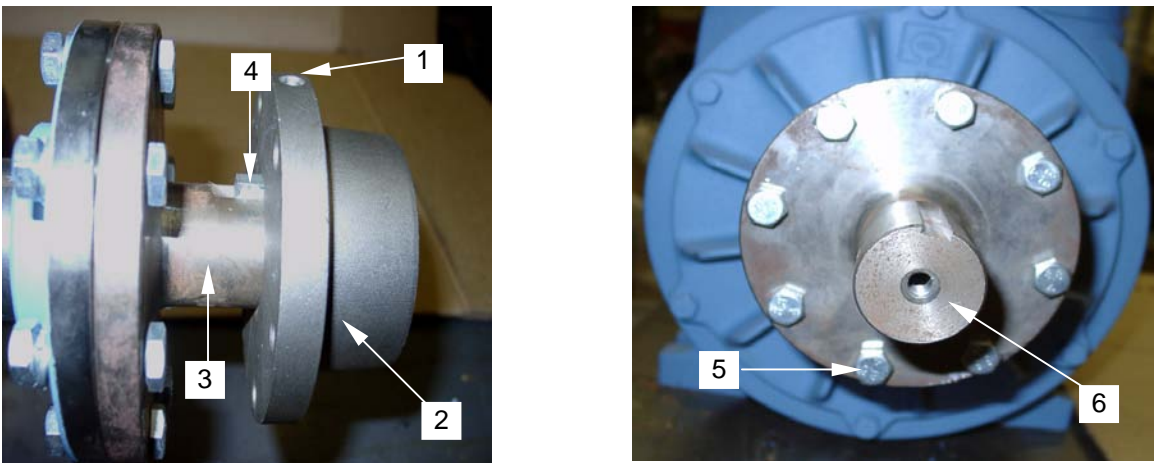

Figure 5. Removing Vacuum Pump Pulley
- Loosen setscrew (**figure 5, item 1**) and remove adapter (**figure 5, item 2**) from flanged pump shaft extension (**figure 5, item 3**). Retain key (**figure 5, item 4**).
- Remove eight bolts (**figure 5, item 5**) from the flanged pump shaft extension (**figure 5, item 6**).